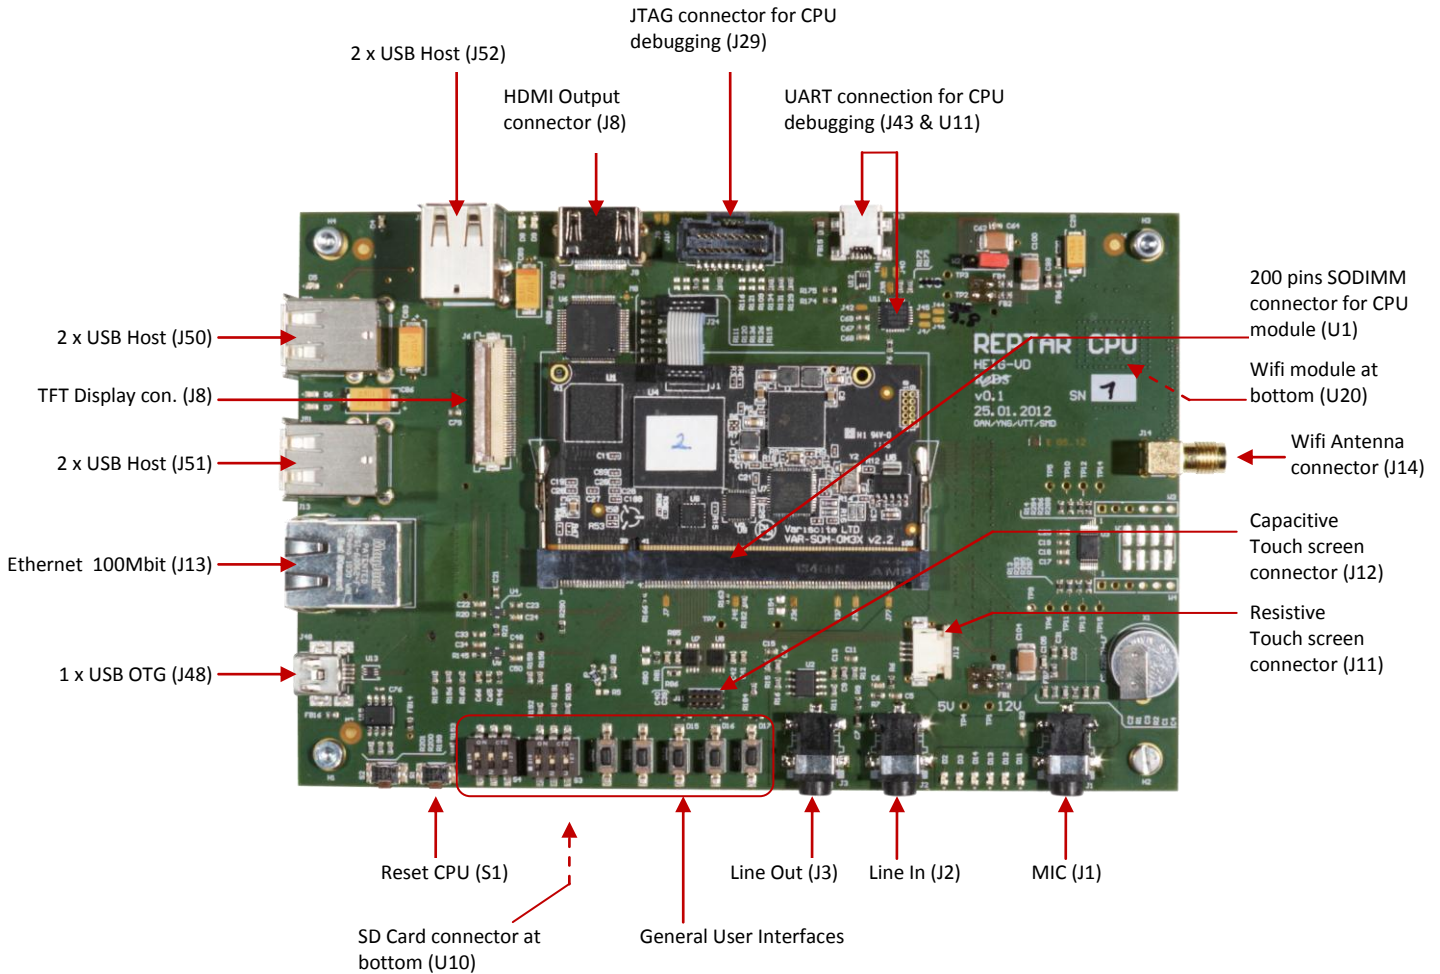

Figure 2 - CPU Board details
1. Connect the mini-USB cable between the REPTAR board and your PC. See the Figure 2 to find the UART connector on the REPTAR CPU board.